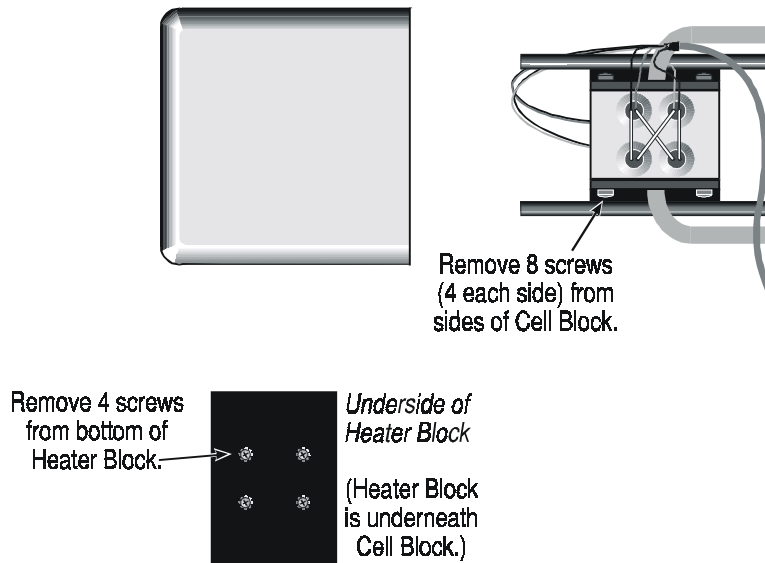

Figure 4-3: Removal of Cell from Cell Housing
- a. Refer to Figure 4-3, which illustrates removal of the Cell Block from the Cell Compartment. Exploded view is as seen from the top of the Cell Block.